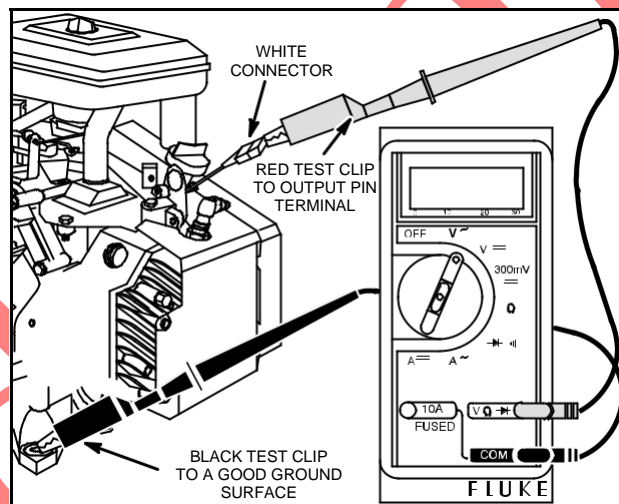

Fig. 13 – Testing AC Output
4. Attach RED test lead clip to AC output terminal, Fig. 13.